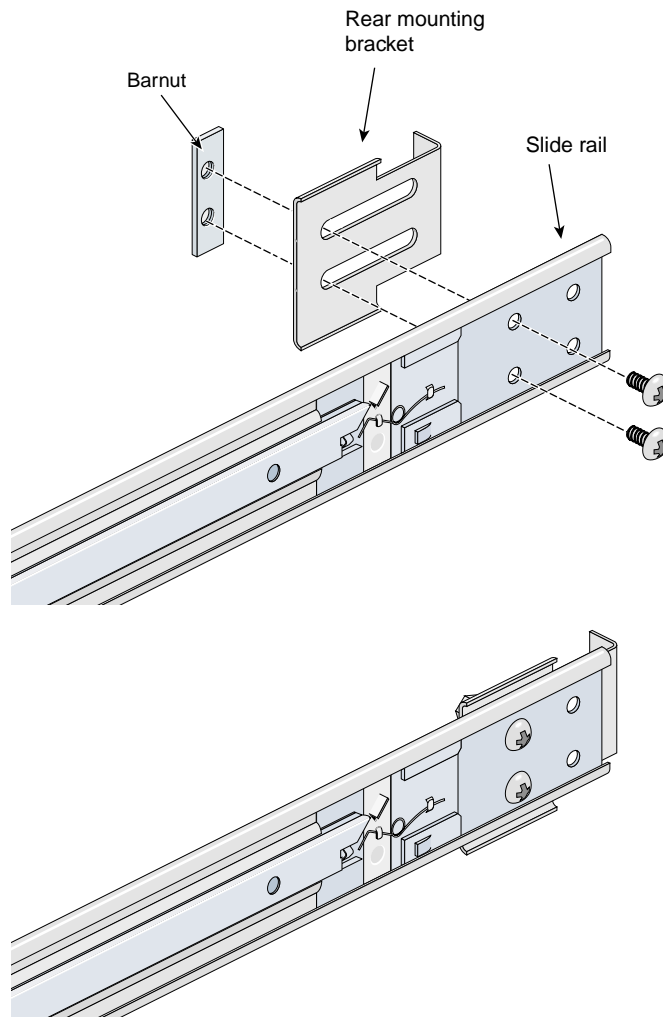

Figure 1-13 Attaching the Rear Mounting Bracket to the Slide Rail
4. Place one of the mounting brackets on the back of the slide rail, as shown in Figure 1-13. Adjust the position of the mounting bracket on the slide rail according to the depth of the rack.
5. Place a barnut next to the mounting bracket. Secure the mounting bracket to the slide rail by inserting two 10-32 x 1/2-in. screws through the assembly and into the barnut, as shown in Figure 1-13.